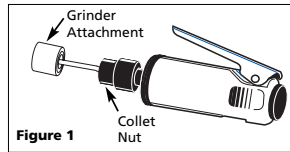

Figure 1
- Insert stem of grinder attachment into collet opening (See Figure 1). Make sure stem is fully inserted.